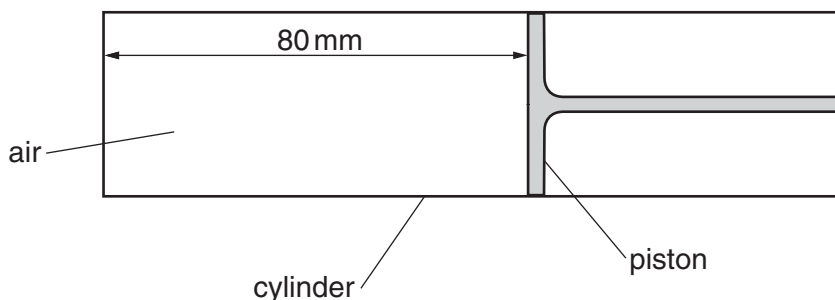

Fig. 4.1
- 3 (a) Fig. 4.1 shows a cylinder containing air at a pressure of 1.0×10^5 Pa. The length of the air column in the cylinder is 80 mm.